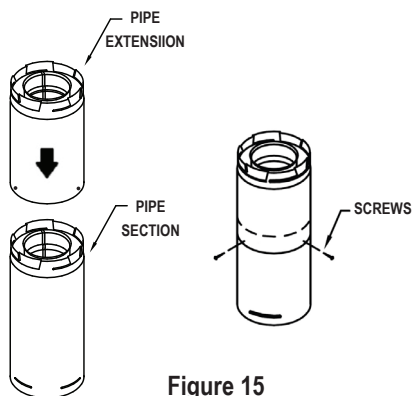

Figure 15
(1) If exact lengths or distances must be met between Elbow offsets or elsewhere, use the Pipe Extensions to adjust onto standard Pipe Sections. When distance of Pipe Extension is set, secure with the 3 self drilling screws provided with Pipe Extension (**Fig. 15**).